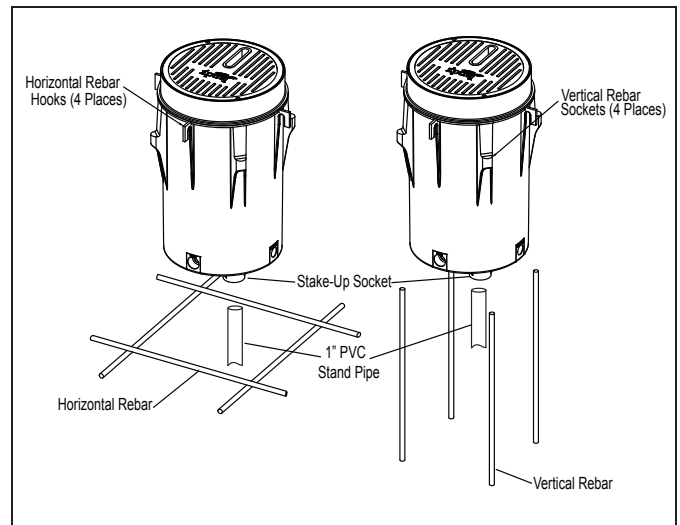

Figure 5. Deck Canister Rebar Hooks and Sockets
NOTE To ensure that the canister stays upright while installing **and** leveling the unit, place a 6 inch piece of 1 inch PVC pipe in the construction support stake-up socket located on the bottom of the canister (see Figure 5).
3. Level the deck canister. To hold the canister in place while the deck is poured, secure the canister by tying it with tie wire to the steel framework of the deck. To mount level, horizontal rebar hooks and vertical rebar sockets are provided around the outside of the canister. See Figure 5.
NOTE To ensure that the canister stays upright while installing and leveling the unit, place a 6 inch length of 1 inch PVC pipe in the stake-up socket feature located on the bottom of the canister (see Figure 5).
4. Level the deck canister. To hold the canister in place, position a 6 inch piece of 1 inch PVC pipe in the construction support socket located on the bottom of the canister (see Figure 5).